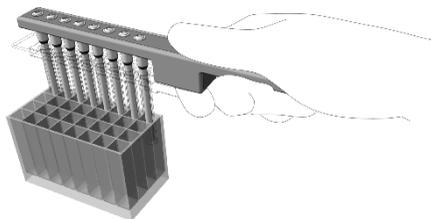

Figure 12. Collecting magnetic beads from **column 4**.
27. Using the IndiMag Handheld with the rod cover, slowly mix 10 times up and down to collect the magnetic beads from **column 4** (Figure 12). Wait until all the beads have attached to the rod cover.